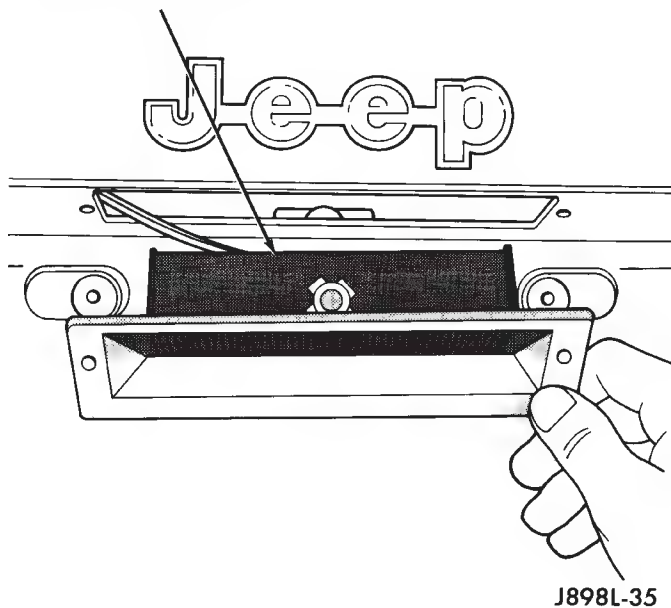

Fig. 18 License Plate Lamp Visor
(1) Remove screws and the license plate lamp visor from the liftgate (Fig. 18).